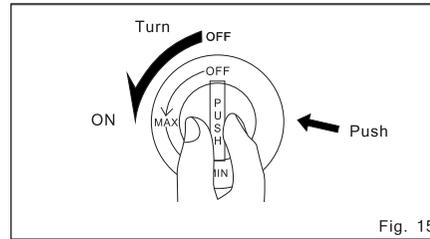
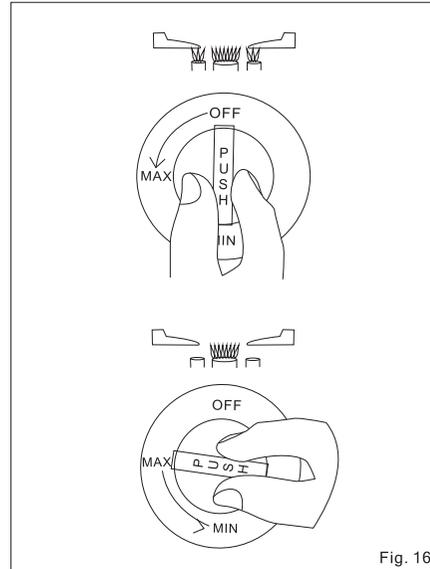

Fig. 15
Fig. 16
A. Open the main gas valve. Push the gas control knob in and turn it towards the MAX position (counter-clockwise) until you hear the ignition click. Make sure that the burner has been lit (Fig. 15). In this position, double burner will light up both the small and large burners. To use only the small burner, release the gas control knob and turn it further to the MIN position (Fig. 16).